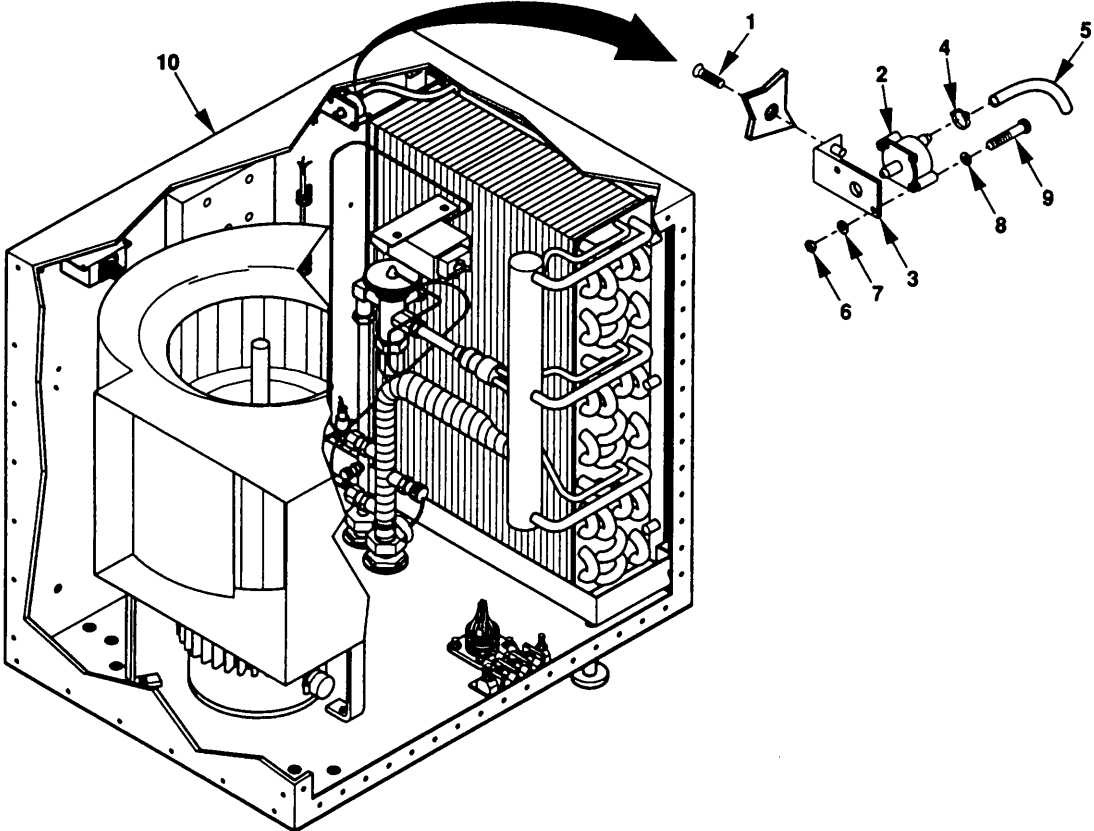

Figure 5-17. Differential Pressure Beech -Maintenance.
- (1) Remove two screws (Figure 5-17, 1) differential pressure switch (2), and mounting bracket (3).
- (2) Remove hose clamp (1) and tube (5). Discard hose clamp (a).
- (3) Remove two nuts (6), lock washers (7), flat washers (8), bolts (9), and differential pressure switch (2) from mounting bracket (3).